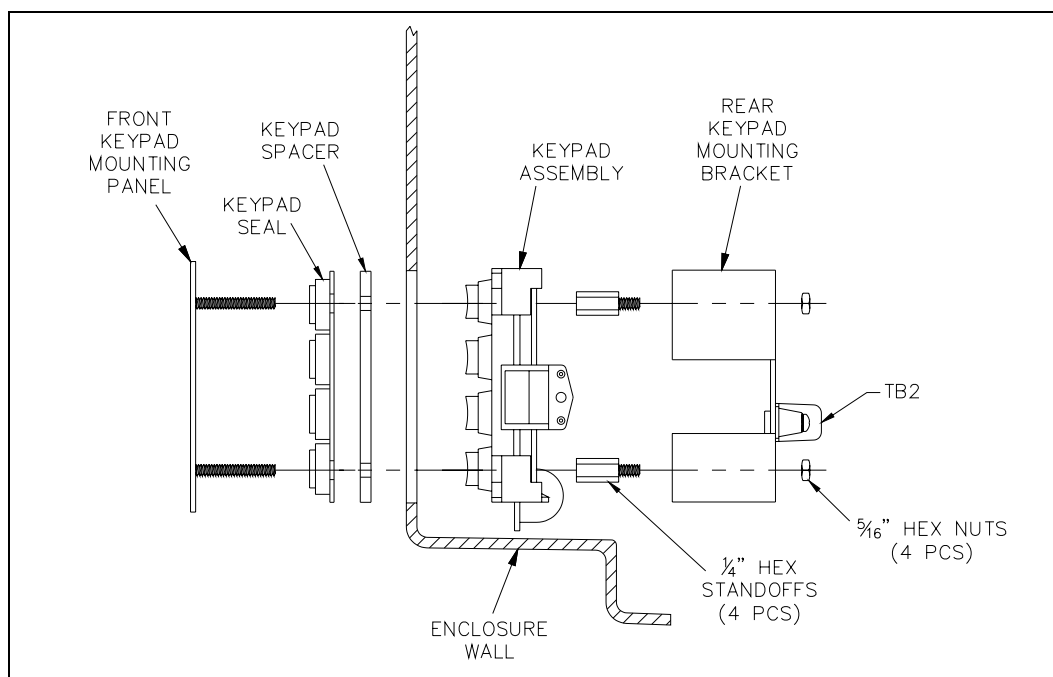

Figure 6.
14. Lift the aluminum keypad spacer off the front keypad mounting panel to expose the keypad seal. See Figure 6. Save the keypad spacer for re-assembly.
16. Press the new keypad seal into the front keypad mounting panel as shown in Figure 6. Make sure that each key extrusion of the seal is seating fully into the front keypad mounting panel.